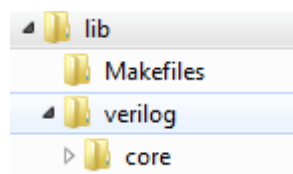
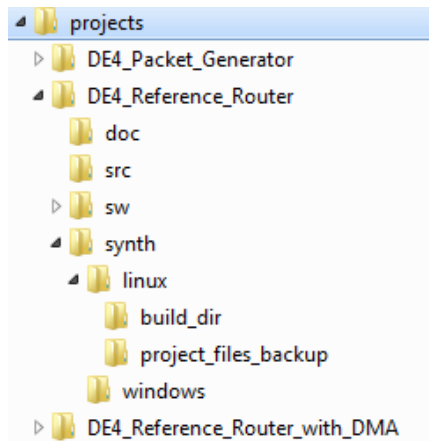

Figure 6: lib directory structure
Figure 7: Packet Generator directory structure
- Unzipping **DE4_Packet_Generator_v1.0.zip** will merge DE4_Packet_Generator source files with the “lib” and “project” directories in the base package. These directories are shown in Figure 6 and Figure 7.